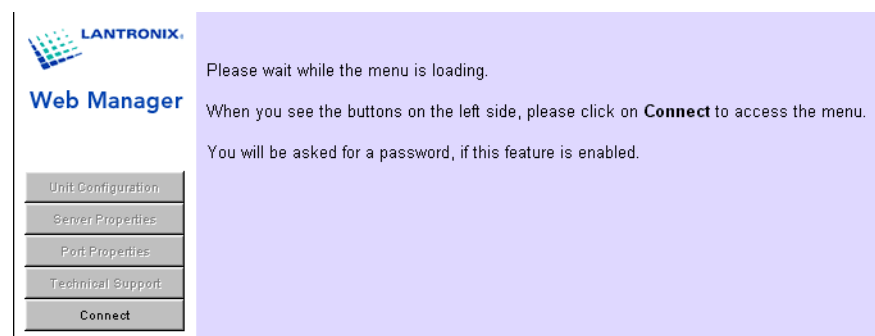

Figure 31: Web Browser LAN-50/LAN-500 Configuration Entry Screen
1. Open your web browser program. Enter the IP address of the LAN-50/LAN-500 at the browser's "Open Page" command. The browser opens to the LAN-50/LAN-500 configuration entry screen. When the LAN-50/LAN-500 configuration program has completely loaded, the  button becomes active (see Figure 31).